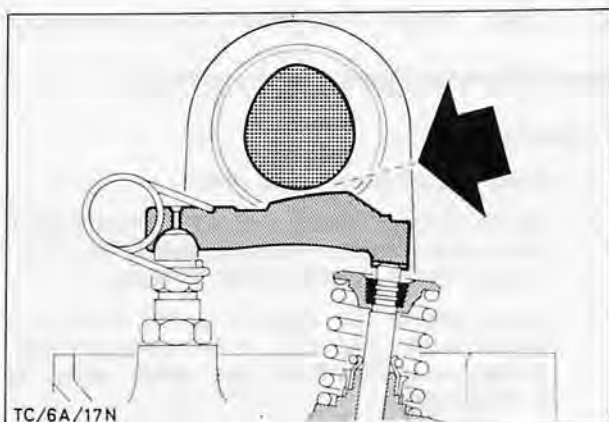

Fig. 118. Adjust valve clearances
62. Check valve clearances and adjust, if necessary (see Operation No. 21 213 'B' engine), Fig. 118.